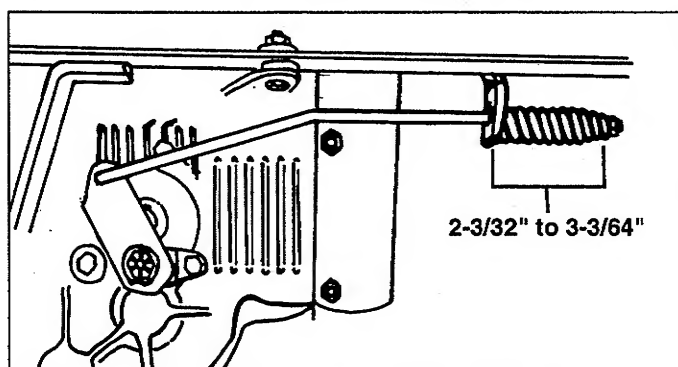

Figure 29. Brake Adjustment - Hydro Models
2. See figure 29. The brake rod spring should measure 3" ($2\frac{3}{32}''$ to $3\frac{3}{64}''$) when compressed. Turn the adjustment nut to achieve correct spring length.